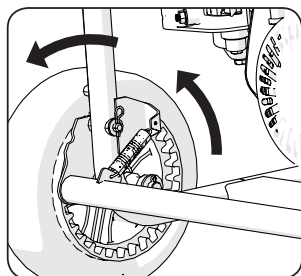

Fig 3
- Check the operation of the wheel brake by applying and releasing it several times, spinning the wheels between applications. The brake must lock both wheels securely. **(Fig. 3)**